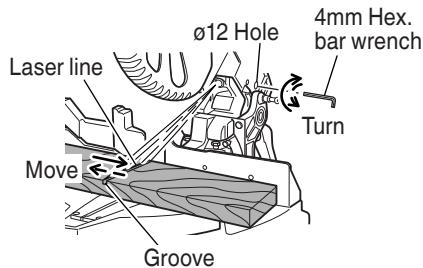

Fig. 17
- (2) Then insert a 4mm hex. bar wrench in the 12 diameter hole on the side of the gear case, turn the hex. socket set screw to move the laser line. (If you turn the Hex. socket screw clockwise, the laser line will shift to the right and if you turn it counterclockwise, the laser line will shift to the left.) When you work with the ink line aligned with the left side of the saw blade, align the laser line with the left end of the groove. (Fig. 17) When you align it with the right side of the saw blade, align the laser line with the right side of the groove.